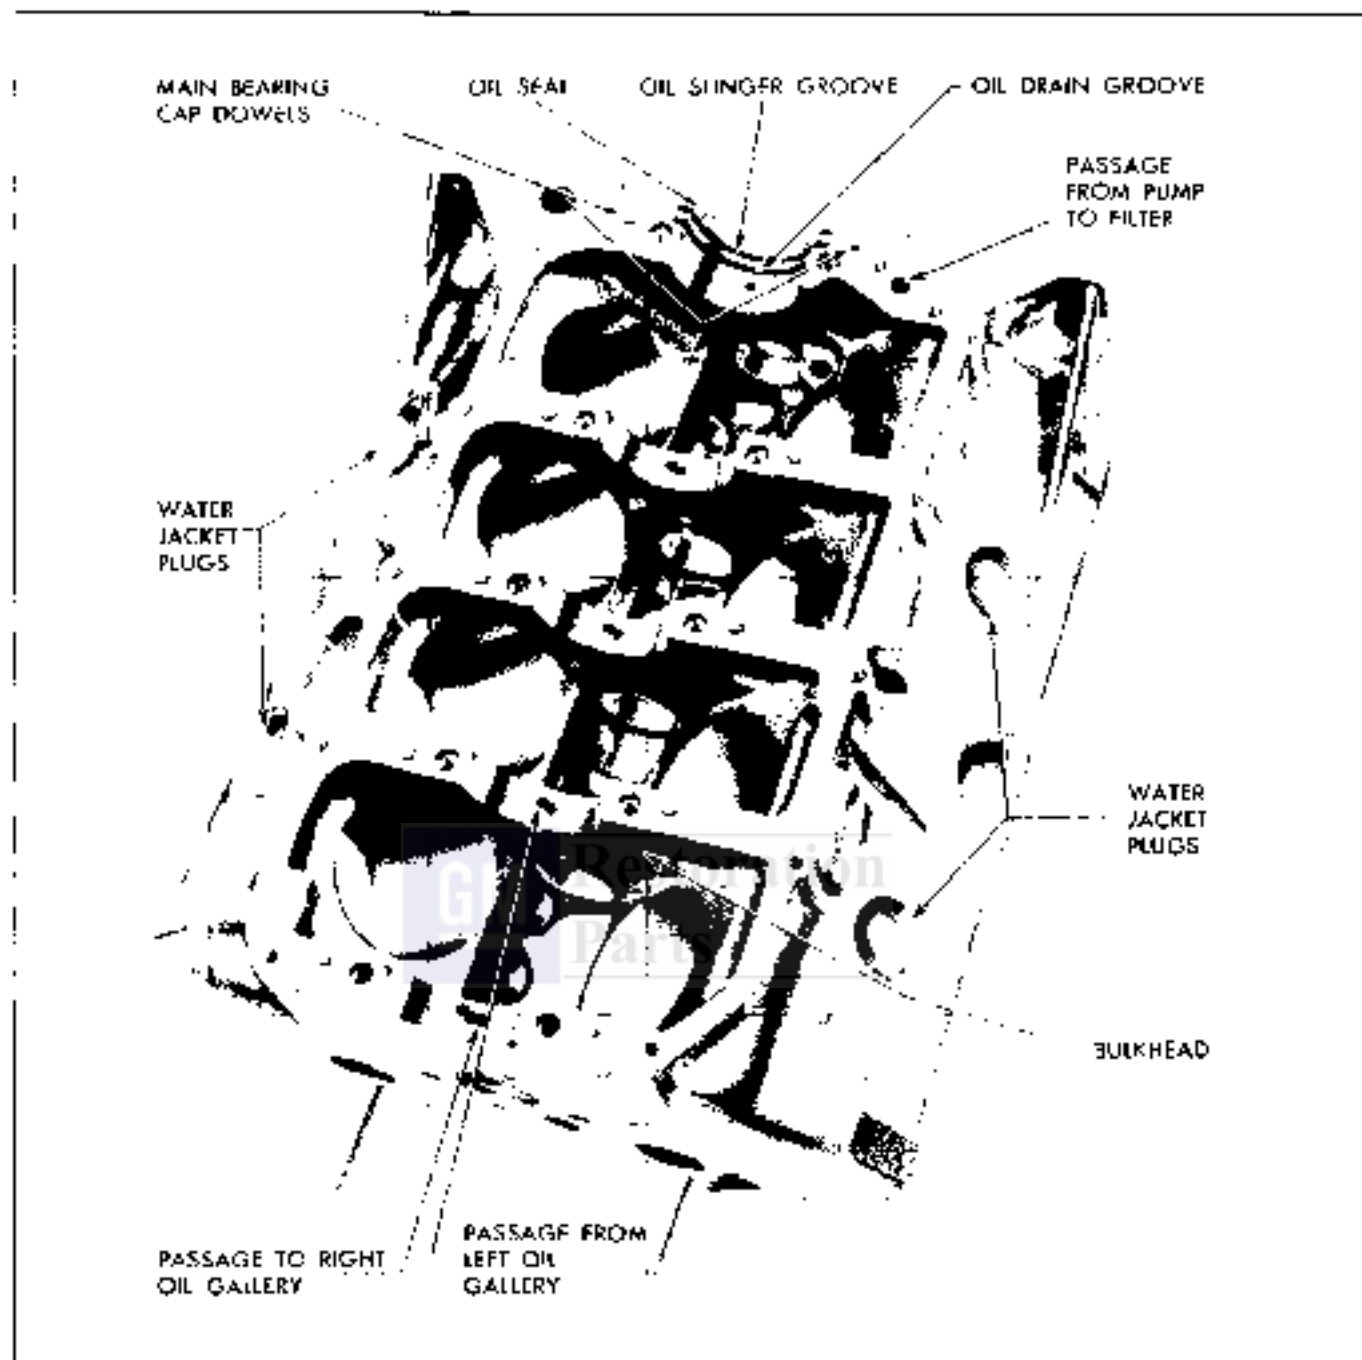

Fig. 6-129 Cylinder Block—View From Bottom
- a. With cylinder block inverted, use pen light to see that passage from oil pump to filter is open (Fig. 6-129).
- c. Visually check passage from each main bearing to corresponding crankshaft bearing (Fig. 6-129).